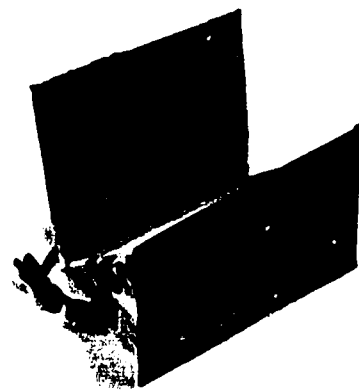

Fig. 61-6. Psychedelic Light
7. Staple or tape the .020" x $6\frac{1}{4}$ " x 10" translucent styrene to front of screen. See Fig. 61-6.